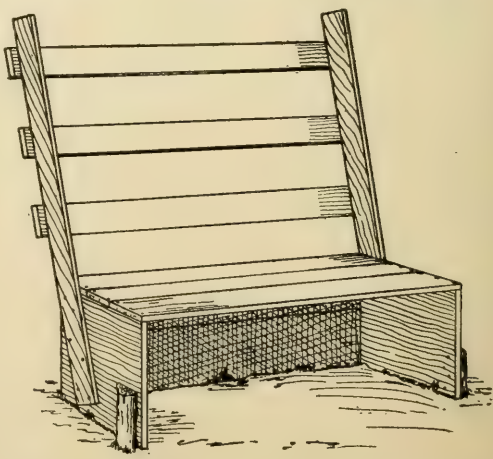

FIG. 434. — A Comfortable Box Bench.
**A Comfortable Box Bench** is made by removing one side of a box, then placing the box on the ground, bottom up, and constructing a back as shown in Fig. 434. To keep it from overturning, nail the box to stakes driven into the ground. Use your ingenuity in constructing